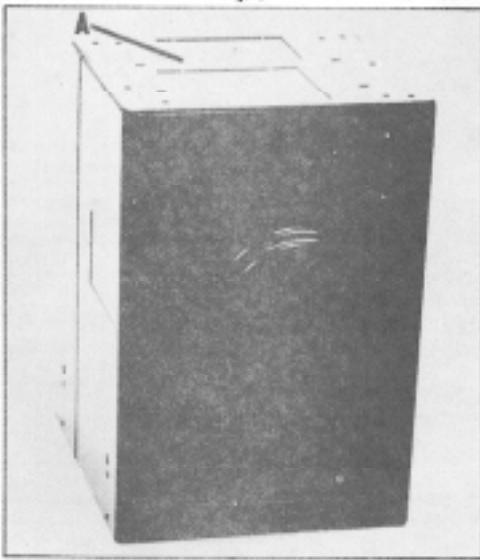

Fig. 4
If this band saw is received with separate stand and electricals NOT factory mounted and wired, the stand is supplied as shown in Fig. 4. Remove the small knockout (A) Fig. 4, located on top of the stand and proceed as follows to assemble the motor plate, motor, motor pulley and switch: